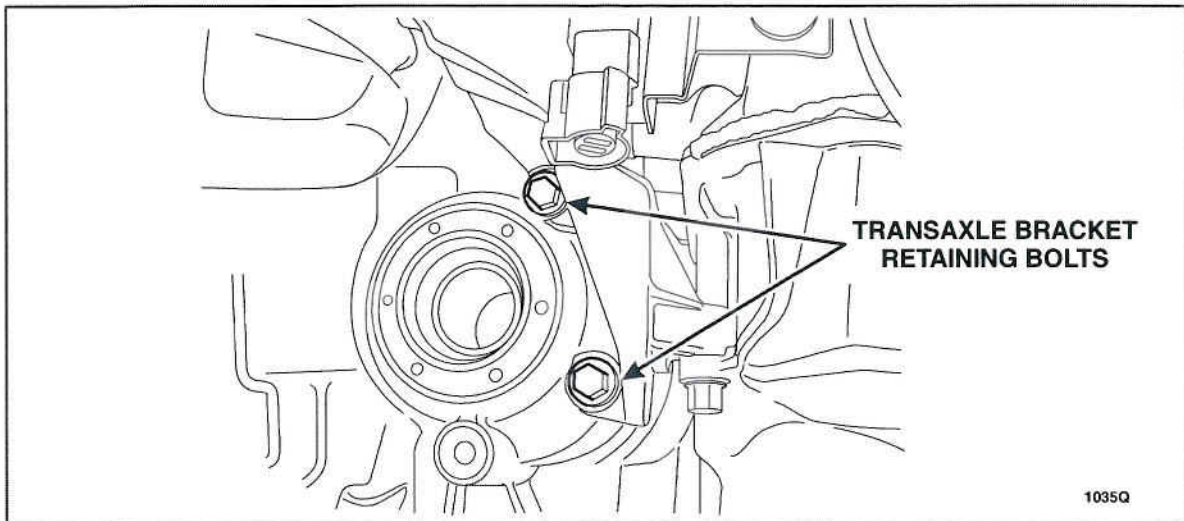

FIGURE 26
54. Remove the transaxle bracket retaining bolts. See Figure 26.
6. Install the transaxle bracket retaining bolts. See Figure 26.